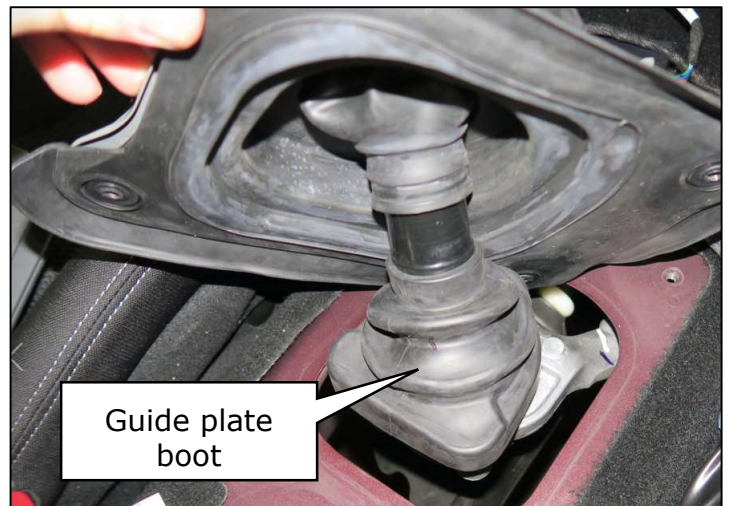

Figure 29
27. Install the guide plate boot over the shifter guide plate. (Figure 29)